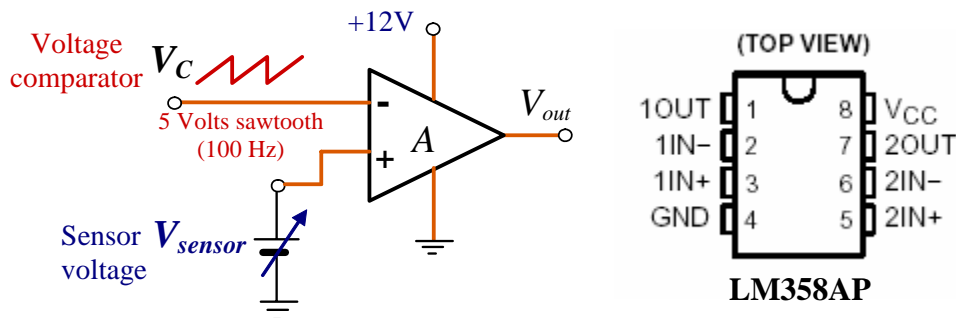

Fig.2 Left: Comparator circuit. **Right:** Pin connections of the LM358AP. Notice that a ground terminal replaces $-V_{CC}$.
- Use the op amp LM358AP to implement the comparator circuit shown in Fig.2. Initially, use a sawtooth voltage of 100 Hz